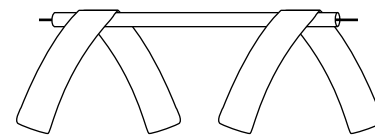

Figure 4.
7. Place two 5-cm pieces of masking tape on the straw piece. Place the midpoint of the tape on the straw so that the tape ends extend equally from each side of the straw (see Figure 4).